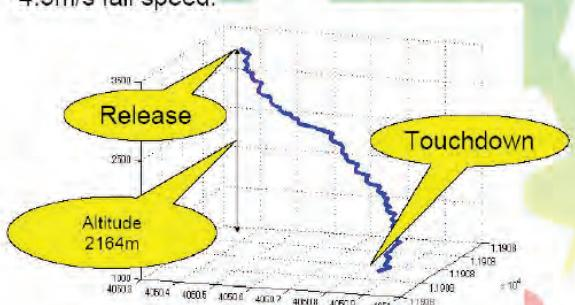

Fig.4 Plot the GPS data (1st) on the graph
- Fig.4 shows GPS data (5Hz) of Canasat with 4.5m/s fall speed.